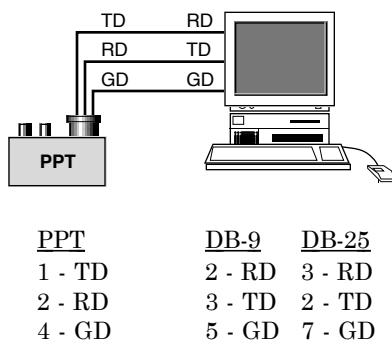

Figure 3. Connections for Digital Command Mode
If the analog meter, or programmable logic controller (PLC), has a low level input limit of 1 volt and a high level input of 4.85 volt (instead of 0 and 5 volts), the PPT can be easily configured to accommodate this. The lower and higher limit can be set to any value between 0 to 5 volts in 50 millivolt increments. To do this requires using the PPT digital connections and a computer. Connect the three pins of the PPT to the COM port of a computer using a DB-9 pin or DB-25 pin connector. The transmit (TD), receive (RD) and ground (GD) pins of the PPT are connected as shown in Fig. 3.